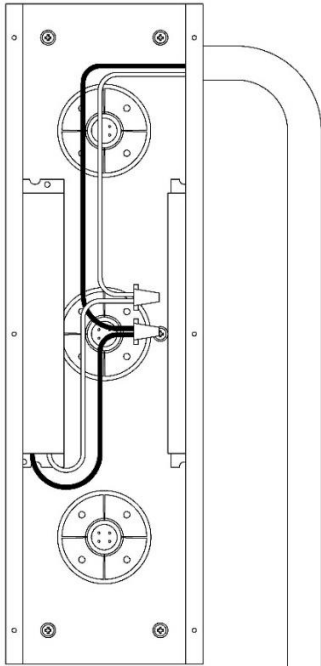

Figure 25
- 3.) Disconnect wire nuts powering catalyst panels. Remove conduit connectors from ballast tray. See Figure 25. Take note of where each wire is connected. They will need to be rewired in the same way once panel is put back into place.
- 6.) Using wire nuts and conduit connectors, wire new catalyst panels in the same way that the old ones were originally wired. See Figure 25.